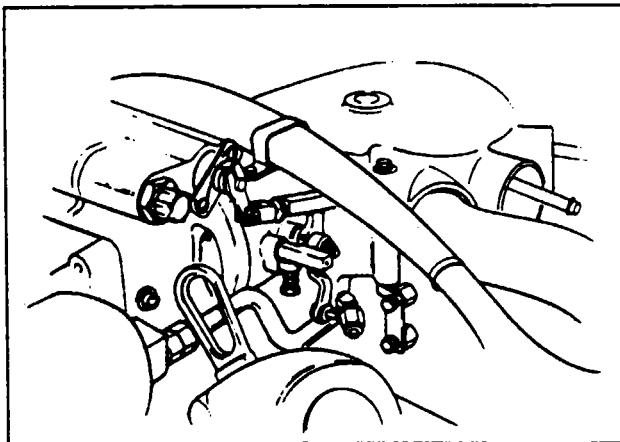

Figure 13b. Obtaining clearance of throttle lever closed position.
- d. Place gauge (ST-318) over injector stop pin with side marked ".040" down and between pin and end of idle stop adjusting screw. Do not turn from full closed setting at this time. (See Figure 13b.)